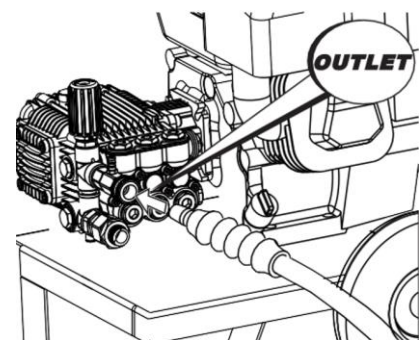

Fig. 9
- Insert the high-pressure hose fitting into the gun port (water outlet port). See Fig. 9.